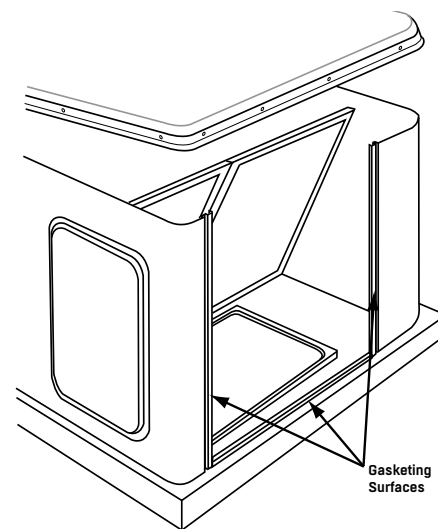

FIGURE 10. Gasketing areas on the Trane® Precedent® unit are identified above.
- 3) Attach gasketing (3/4" x 1/2" supplied) to the 3 gasketing surfaces on the Trane® Precedent® unit (See **FIGURE 10**).